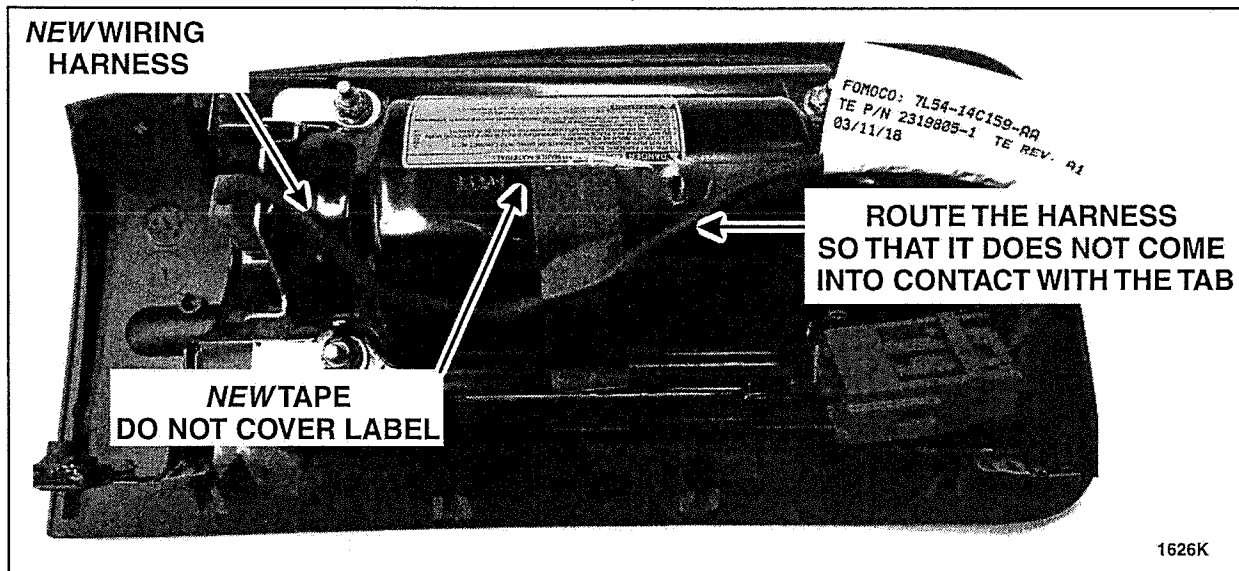

FIGURE 11
- Install the *new* tape to the wiring harness and airbag assembly, do not cover the airbag warning label with the new tape. For correct placement See Figure 11.